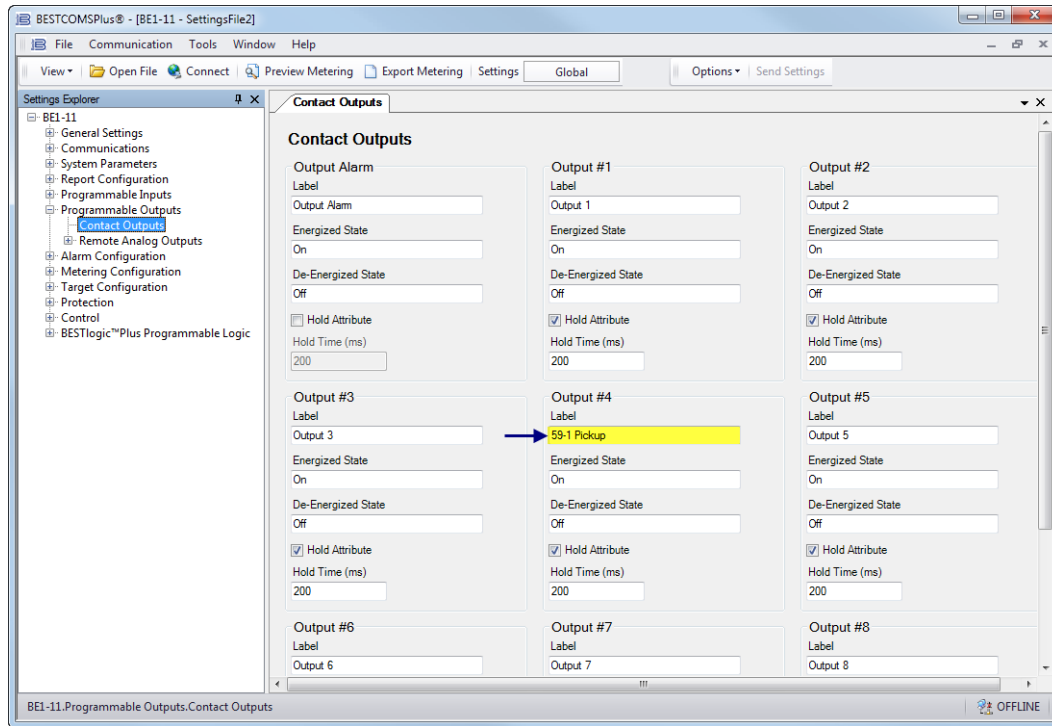

Figure 2-17. Contact Outputs Screen
Step 11: In the Settings Explorer, expand Programmable Outputs, Contact Outputs, and name Output #4 (59-1 Pickup) as shown in Figure 2-17.